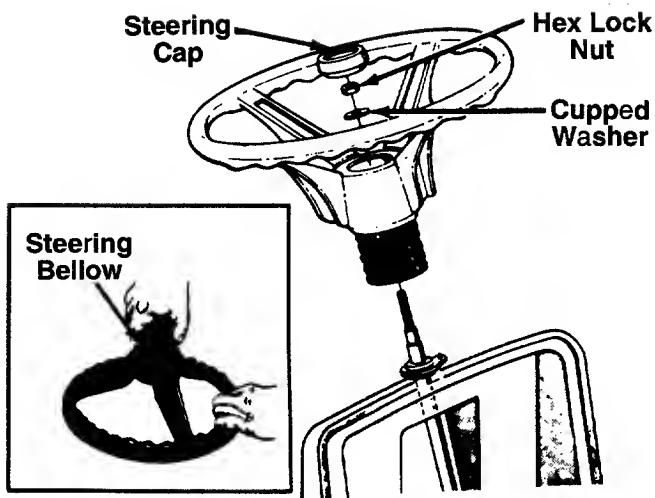

FIGURE 4.
2. Attach one end of steering bellow to the steering wheel as shown in figure 4, inset.
5. Place the washer with the cupped side down over the steering shaft. Secure with hex lock nut. See figure 4.